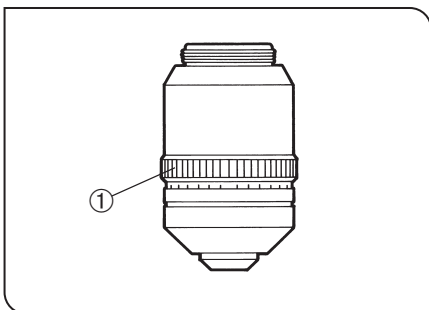

Fig. 44
- If the cover glass thickness is known, set the correction collar ① to that scale value. (Fig. 44)
- If the cover glass thickness is unknown, adjust the correction collar ① and fine adjustment knob alternately until the positioning with the highest contrast is obtained.
- ☉ Be careful not to touch the correction collar ① when turning the revolving nosepiece.